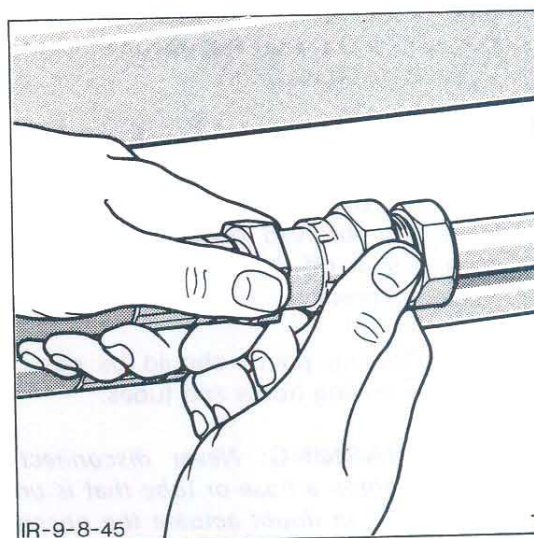

Figure 25
3. Assemble the new hose or tube assembly and tighten the fitting finger tight, while holding the tube or hose assembly to prevent it from turning, Figure 25.